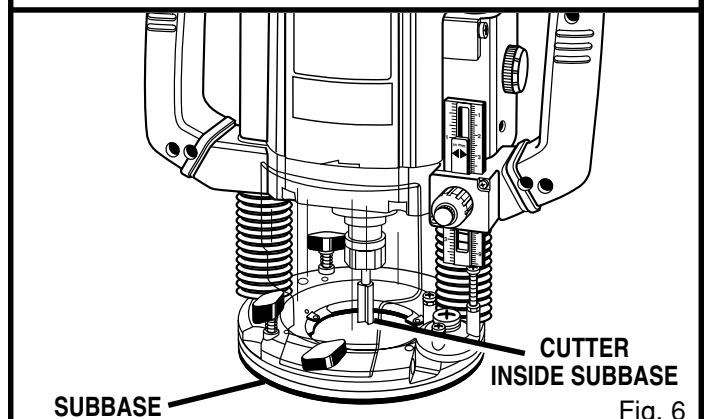

Fig. 6
- Adjust depth control knob until cutter is inside router subbase. See Figure 6.